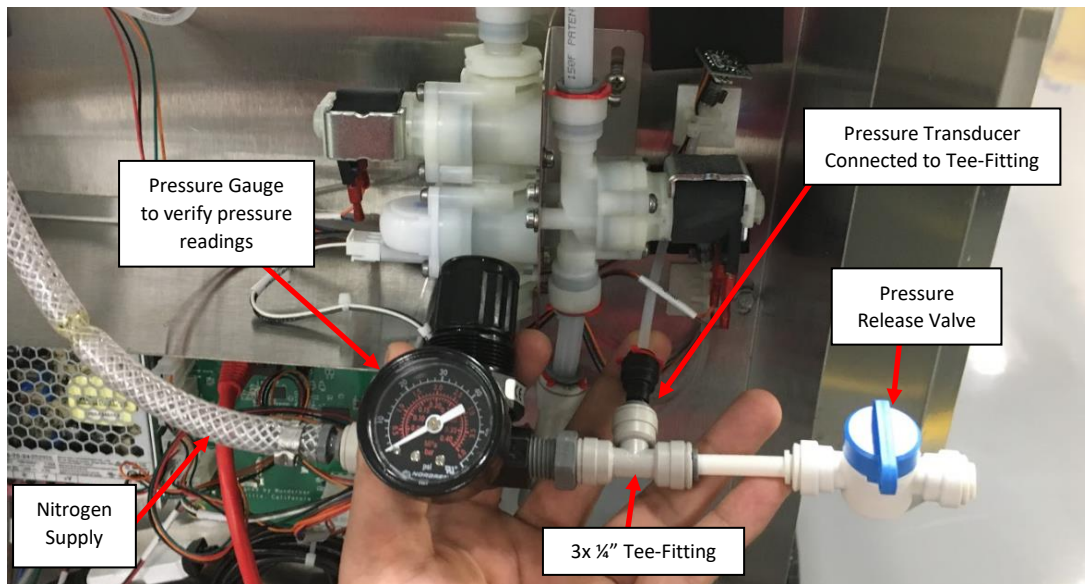

Figure I9: Pressure Transducer test rig shown.
- Connect the Pressure Transducer to a known pressure (Below 60PSI) and compare the pressure reading with the known pressure. The stem on the Black Push-to-connect fitting is 0.25" so you will need a gas supply with a 0.25" Female Push-to-connect output. Ensure you have a way to release the pressure such as a Tee-Fitting with one output connected to a valve and another to the Pressure Transducer. **See Figure I9.**